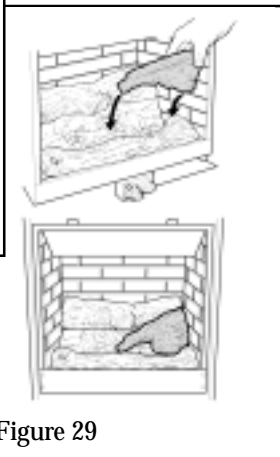

Figure 29
4. Place the right side log in the hollow at right of the base log. Rest the narrow nose of this log on the projection at front centre of the base log – ***It is important that the narrow nose does not drop down to touch the burner.*** See figure 29.